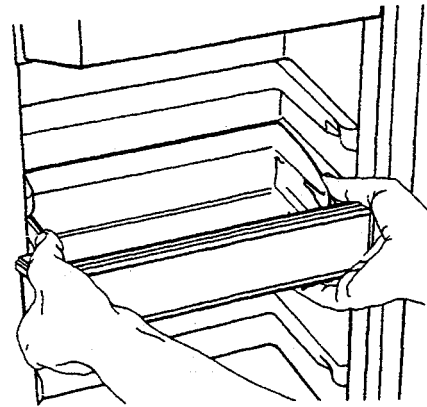

Figure 17
b. Push lock tabs toward center with your thumbs and forefingers. See Figure 17.